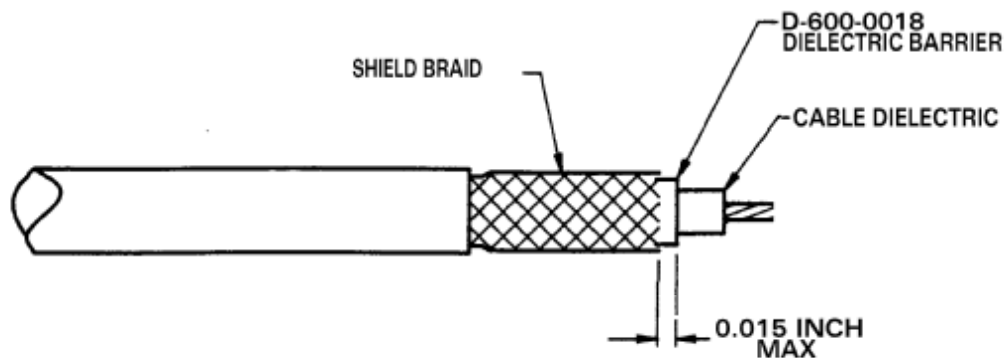

Figure 5-5. D-600-0018 Dielectric Barrier Installation
3. Slip the D-600-0018 dielectric barrier between the shield braid and the cable dielectric (Figure 5-5).